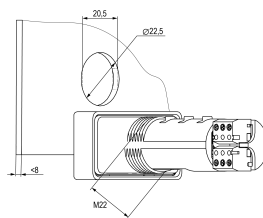

Fig. 2 Mounting cutout
1. Prepare the mounting cutout with Ø of 22.5 mm in the switchboard where the device should be mounted (see Fig. 2).